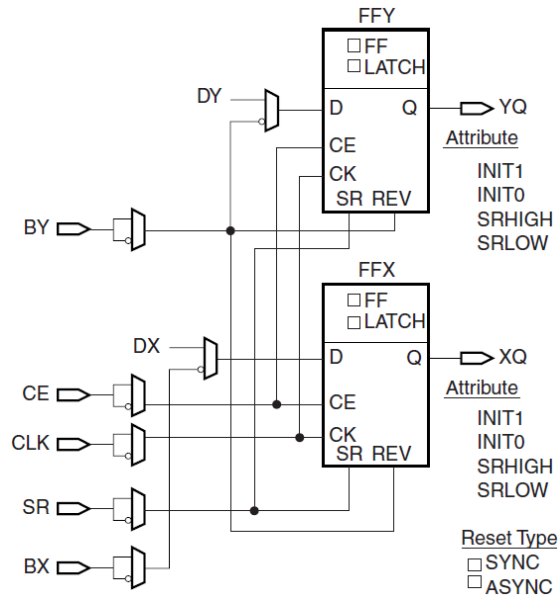

Figure 12 Register/Latch Configuration in a Slice
The storage elements in a BQ2V1000 slice can be configured as either edge-triggered D-type flip-flops or level-sensitive latches. The D input can be directly driven by the X or Y output via the DX or DY input, or by the slice inputs bypassing the function generators via the BX or BY input. The clock enable signal (CE) is active High by default. If left unconnected, the clock enable for that storage element defaults to the active state. In addition to clock (CK) and clock enable (CE) signals, each slice has set and reset signals (SR and BY slice inputs). SR forces the storage element into the state specified by the attribute SRHIGH or SRLOW. SRHIGH forces a logic “1” when SR is asserted. SRLOW forces a logic “0”. When SR is used, a second input (BY) forces the storage element into the opposite state. The reset condition is predominant over the set condition (Figure 12). The initial state after configuration or global initial state is defined by a separate INIT0 and INIT1 attribute. By default, setting the SRLOW attribute sets INIT0, and setting the SRHIGH attribute sets INIT1.